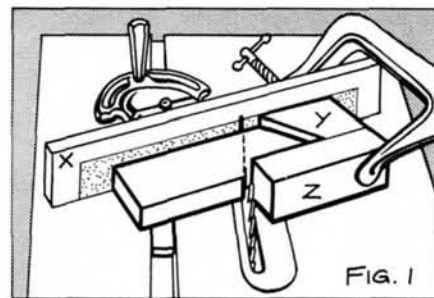

FIG. 1
To improve safety and accuracy, we devised a simple jig (see Fig. 1 and Detail B-B) to use when making the mitered cuts. It consists of a short (about 20 in.) auxiliary fence (Part X) with a strip of 220 grit sandpaper rubber cemented to the front face. Screwed to the auxiliary fence is a stop block (Part Y), mitered at 22 1/2 degrees on one end. The stop block is located 4-9/16 in. from the blade for all layer A segments. The clamp block (Part Z) is used to secure the stock to the jig, and it's held in place with a C-clamp. Ideally, the stop block (Y) should be about 1/32 in. narrower than the stock to be cut. This results in a good clamping action when the C-clamp is attached.